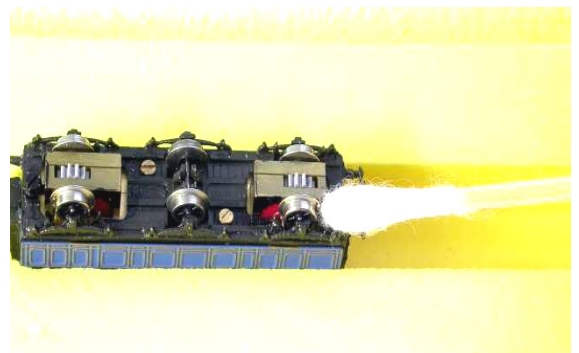

figure 4: Cleaning of the bearing surfaces
6. The only things necessary concerning cleaning and maintenance are the cleaning of the wheels' bearing surfaces and the lubrication of the gears. The axis cannot be dismantled. The bearing surfaces of the wheels can be cleaned with a Q-tip that has been soaked in spirit, alcohol or benzine, figure 4. Having cleaned the accesible areas of all 4 wheels, put the model briefly on the tracks to let the wheels move forward a bit. Now you can continue to clean the wheels with your Q-tip. Please do not turn the wheels by hand. The built-in spirals in the transmission prevent a freewheeling of the wheels. If you try to turn the wheels by force, parts of the traction system are likely to break. The bearing surfaces are clean after you have repeated the above described cleaning process several times and when the Q-tip does not remove any more dirt.